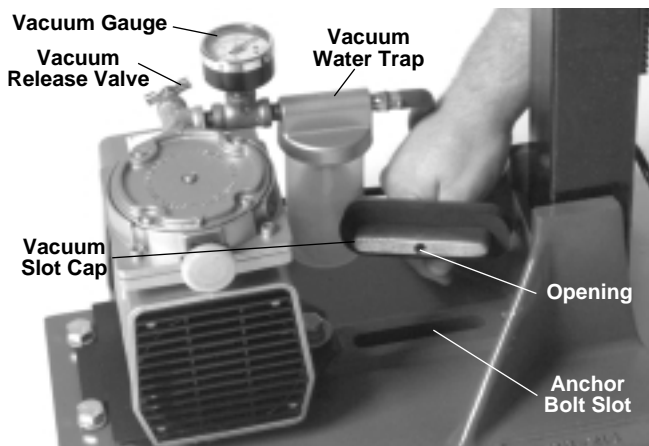

Figure 2 – Vacuum Motor and Base
1. Measure distance from center of anchor bolt slot in base (Figure 2) to center of drill spindle (Figure 1).
4. Insert vacuum slot cap into anchor bolt slot (Figure 2) and check vacuum and hose connections. Vacuum gauge (Figure 2) must read a minimum of 20" of mercury.
NOTE! Vacuum can be released by turning vacuum release valve (Figure 2).